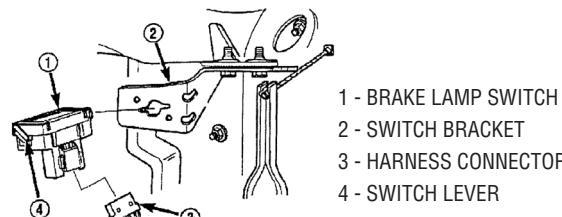

Figure 2
2. Connect the switch harness to the new switch (see Figure 2).
4. Insert the switch into the bracket and turn it 30° clockwise, to lock it into place. (Figure 2)